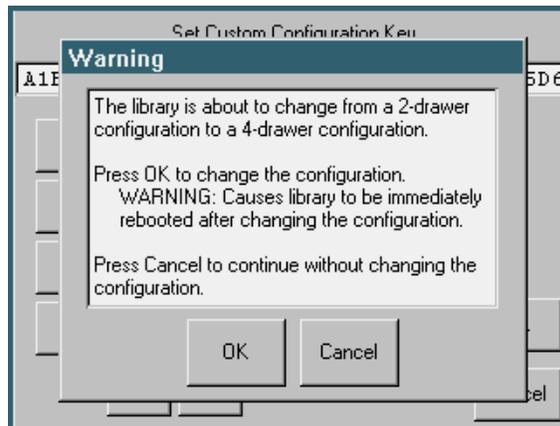

Figure 10-3: Configuration Key Warning Screen
- At the Warning screen, click **OK** to accept the change (Figure 10-3).